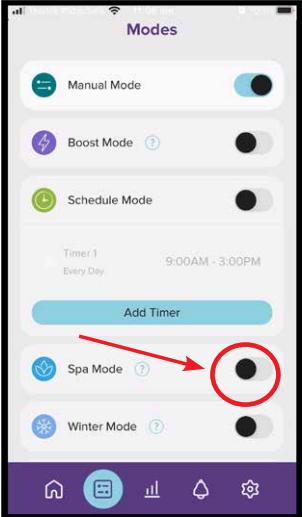

Figure 9.70
- In the "modes" menu, **SPA MODE** can be toggled on, or off by simply sliding the switch (ref Figure 9.70).